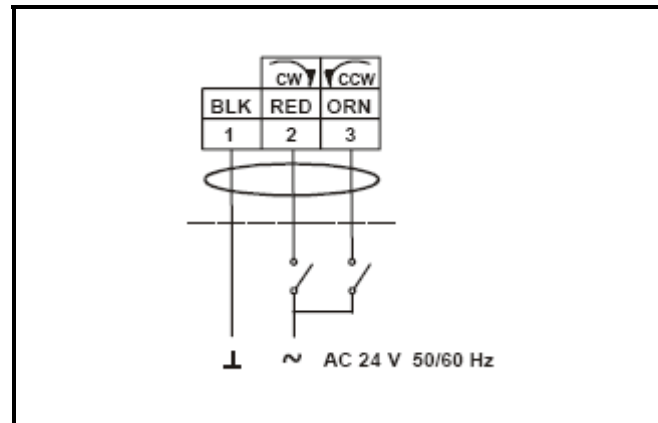

Figure 5: Wiring diagram Floating Control (M9109-AGA-5 and M9109-AGC-5)
For Clockwise (CW) rotation, apply 24 VAC to the Common conductor (COM, BLK, 1) and CW (CW, RED, 2) Conductors. For Counterclockwise (CCW) rotation, apply 24 VAC to the COM (COM, BLK, 1) conductor and CCW (CCW, ORN, 3) conductors. (See Figure 5.)